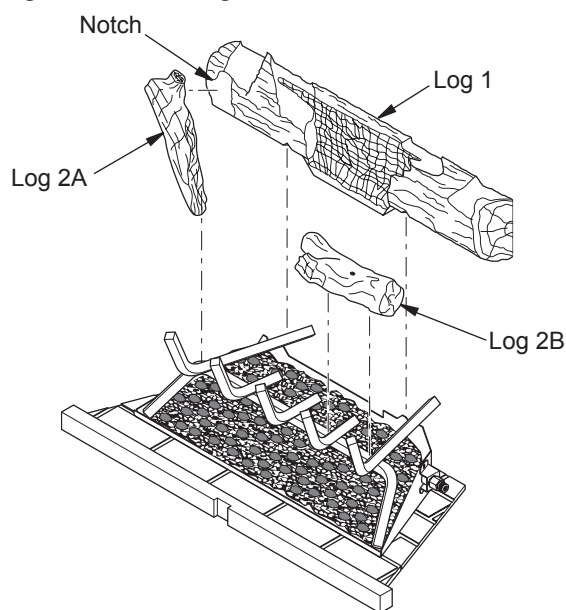

Figure 29 - Installing Logs 1, 2A and 2B
- Place large back log (log 1) onto grate making sure notches rest over grate (see Figure 29).
- Insert lower end of log 2A between the first two grate fingers and position the upper end into the notch on the front of log 1. See Figure 29. Place log 2B on the front right side of grate as shown in Figure 29.